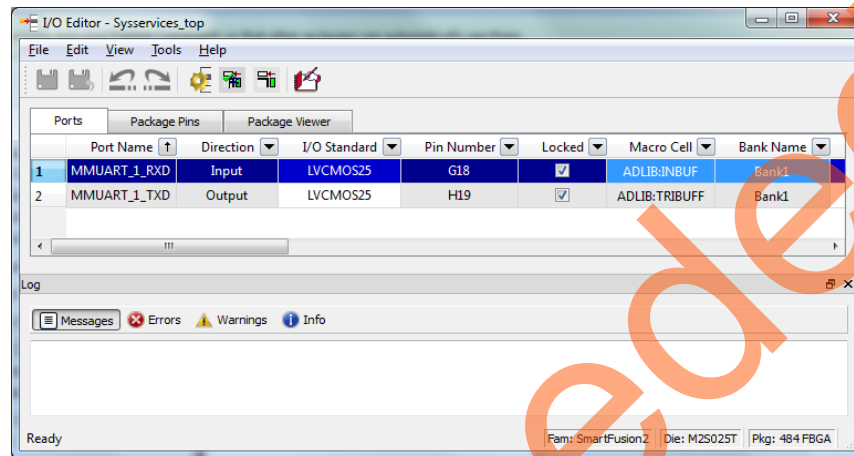

Figure 15 • I/O Editor
2. Make the pin assignments shown in Table 2. After the pins have been assigned, the I/O Editor is displayed as shown in Figure 15.